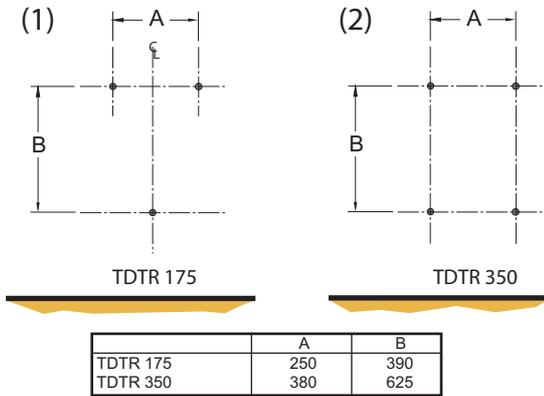

Fig. 2
Note: TDTR 175 can be fitted in arrangement (1) or (2) from below **Fig. 2**, using either three or four wall mounting brackets. Four brackets must be used on the TDTR350 models
Mark suitable mounting hole positions for the fixing brackets (ensuring they are horizontal) - see **Fig. 2**, ensure to allow enough room above and below to maintain the minimum clearance stated.
Align the wall bracket sleeves on the towel rail according to the dimensions shown in **Fig. 2**.